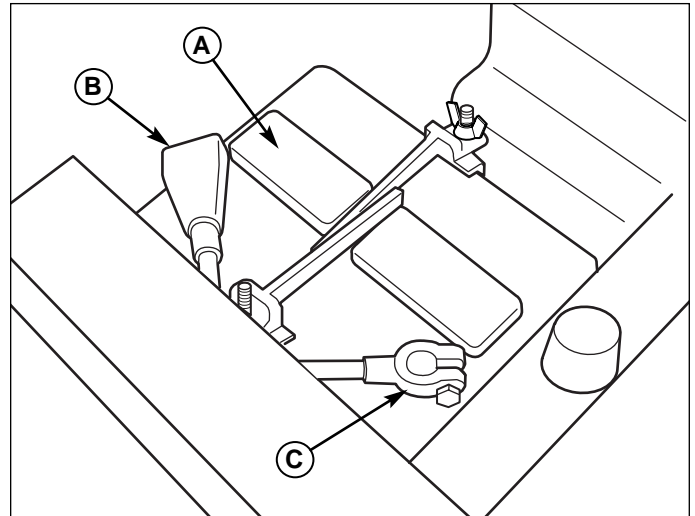

Figure 20. Battery Compartment
2. Remove the battery filler cap (A, Figure 20). Fluid must be even with the split ring full mark. If not, add distilled water.